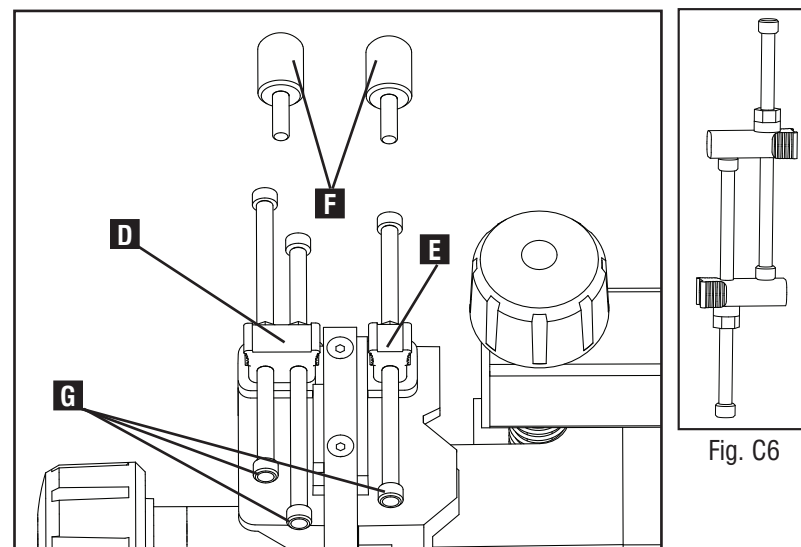
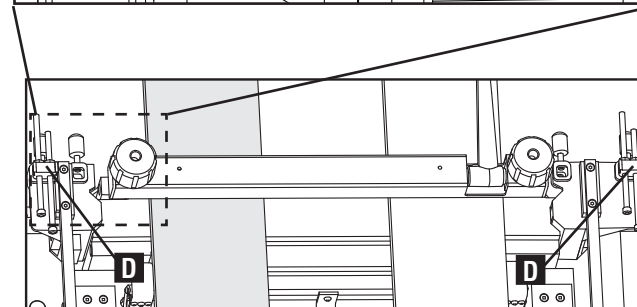

Fig. C6
Fig. C5
Setup for all joints includes the selection of either single or double stops (D and E) Fig. C5 included with your unit. Two stops are necessary - one for the left and one for the right of the OMNIJIG® - and enable the template to be pushed up against them and locked in place to set the template's position on the jig. The various stops are set to different lengths to accommodate the wide variety of applications that can be performed with the jig. For each application, the template must rest at a specific location on the jig before the cuts are made.
While all stops that come as standard with either the OMNIJIG® or template accessories are pre-set dimensionally, they can be adjusted to meet your own specific requirements. By adjusting the stop screws (G) Fig C5 forward or backward, the position of the template on the jig can be altered. When sizing the stops to your own specifications, you need to make sure that both stops (left and right) are set to the same dimensions. To do this, set one to your dimensions and then place both left and right stop together as shown in Fig. C6 and make sure the tips of the unset screw post hits the post on the properly sized stop, as shown.
IMPORTANT: Each pair of stops must be oriented left and right on the jig, so that the labels on the stops are readable as you look at the jig from the front. The 'left' stop is therefore placed to your left for example. The knurled knobs (F) Fig C5, must be added and tightened to the back of the jig once the template stops are in place. Their purpose is to firmly hold the template stops in the jig to ensure that the template is positioned correctly. The stops are able to move if the knobs are not appropriately tightened, which in turn can allow the template to be misaligned. An ill-fitting joint can result.